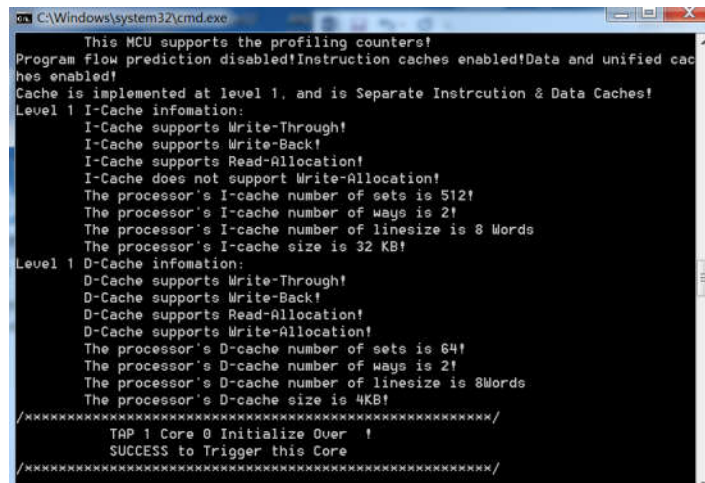

Fig 1-17 RLX Probe window
- c) Open RLX Probe in `project\realtek_amebaD_va0_example\EWARM-RELEASE\probe\cm4\cm4_RTL_Probe`, as Fig 1-17 shows.